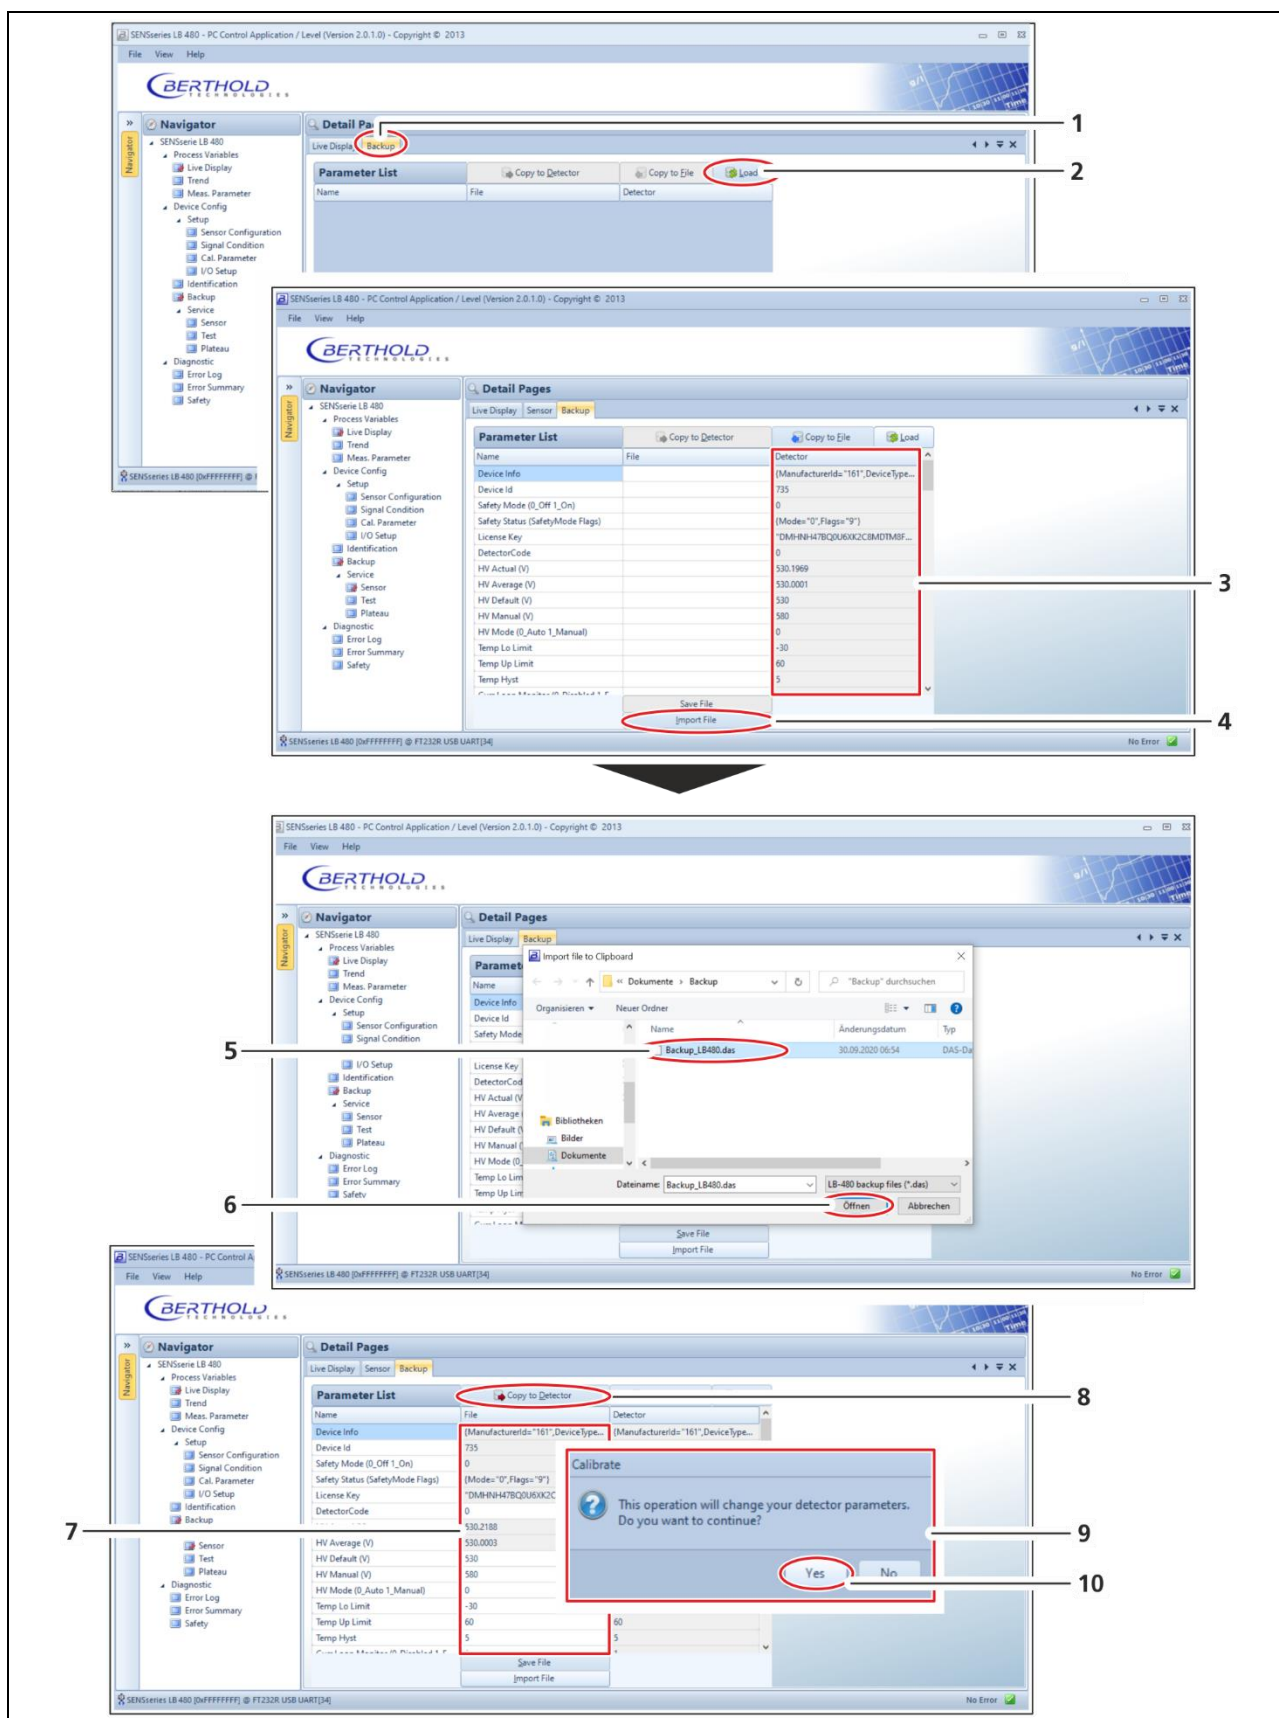

Fig. 9 Transfer the data to the master detector
33. Open the software *LB 480-PC UserInterface Level* in the menu tree **Device Config ► Backup** (Fig. 9, Pos.1) and click on the button **<Load>** (Fig. 9, Pos.2).
- All default values are displayed in the column "Detector" (Fig. 9, Pos.3).
34. Click on the button **<Import File>** (Fig. 9, Pos.4).
35. Select the backup file created in step 17 (Fig. 9, Pos.5) and click on the button **<Open>** (Fig. 9, Pos.6).
- The stored calibration data and settings are displayed in the column "File" (Fig. 9, Pos.7).
36. Click on the button **<Copy to Detector>** (Fig. 9, Pos.8).
- A confirmation window (Fig. 9, Pos.9) is displayed.
37. Click on the button **<Yes>** (Fig. 9, Pos.10) to transfer the data to the master detector.